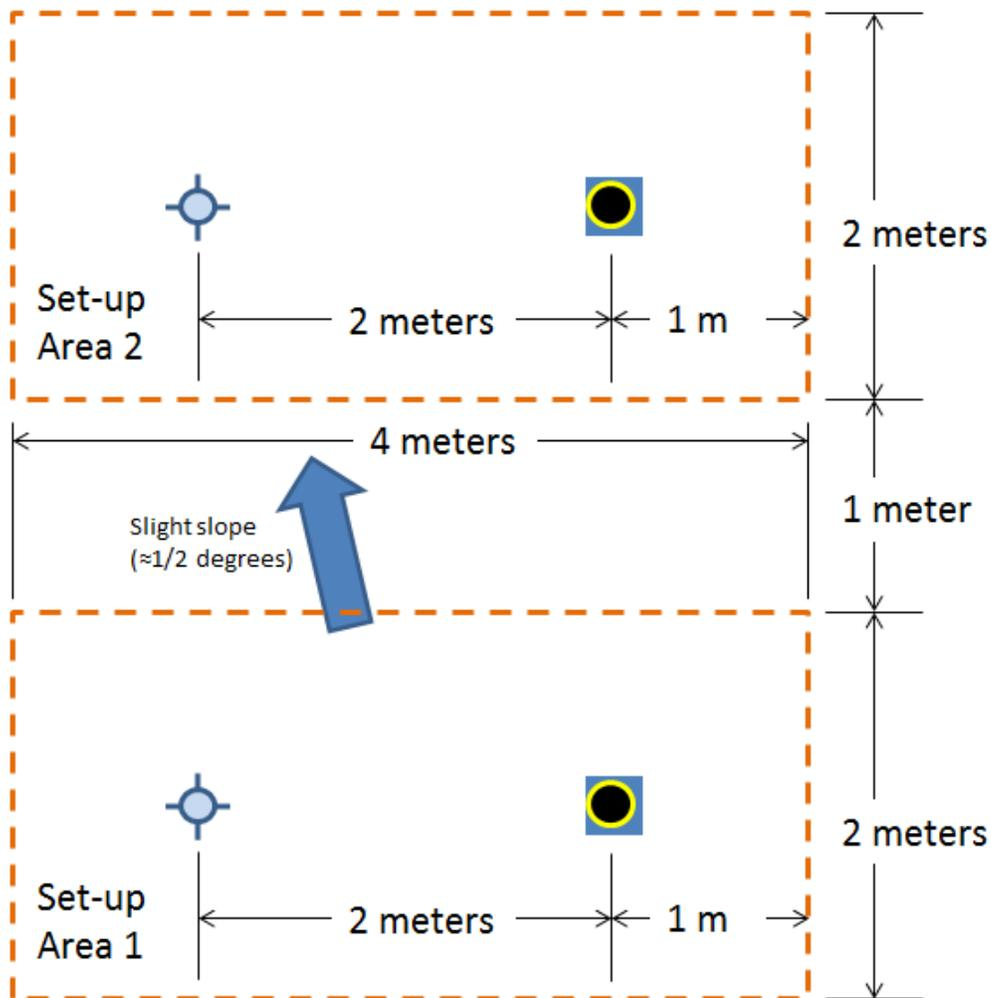

Figure 1. Contest Area – top view
8) The contest site is located in front of the steps leading to Building 180. The site will contain two side-by-side areas for setting up and operating the device. The size of each set-up area is 4 meters by 2 meters. Each team will be randomly assigned to either operating area. The ground is concrete with a rough finish, potentially wet, and has a slight slope (approximately 1/2 degrees across the width as shown in Figure 1). See Figure 1 for a description of the contest area.